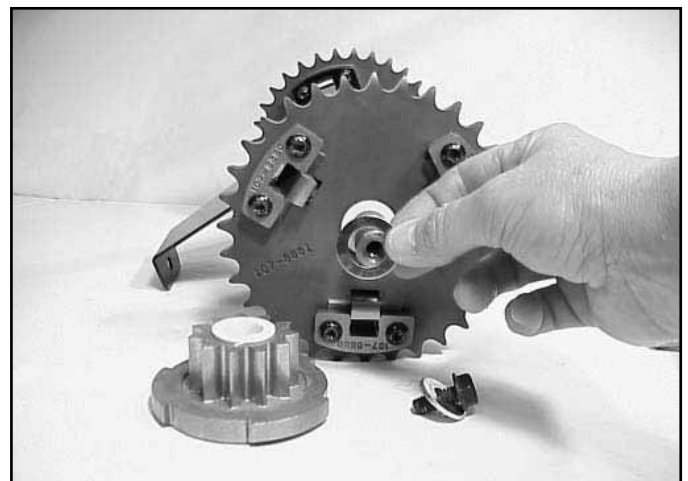

Fig 180
2. Slide off washer behind the 11-tooth gear (Fig. 180).